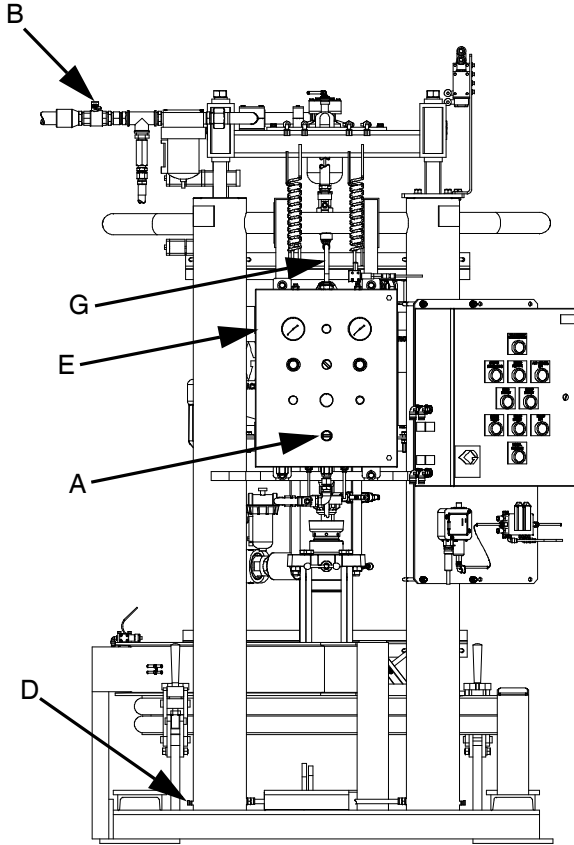

FIG. 4
3. Once both safety hitch pins (106) are secured, turn off all air to the system by closing the Main Air Shutoff Valve on the header (B) and follow your facility's pre-established lock-out/tag-out procedures. See FIG. 4.
4. To place the ram back into operation, verify the RAM POSITION Switch is still in the HOLD/NEUTRAL position, and open the Main Air Shutoff Valve on the header (B).
5. Turn the RAM POSITION Switch (A) to RAISE, then press the RAM UP Pushbutton to move the ram to the fully raised position.
6. Remove both safety hitch pins (106).